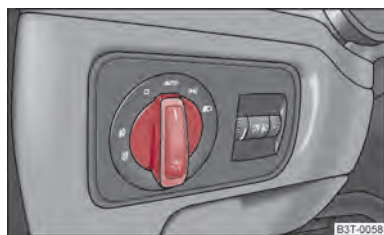

Fig. 35 Dash panel: Light switch
- Turn the light switch ⇒ fig. 35 into position **AUTO**.
- Turn the light switch  **fig. 35** into position **AUTO**.